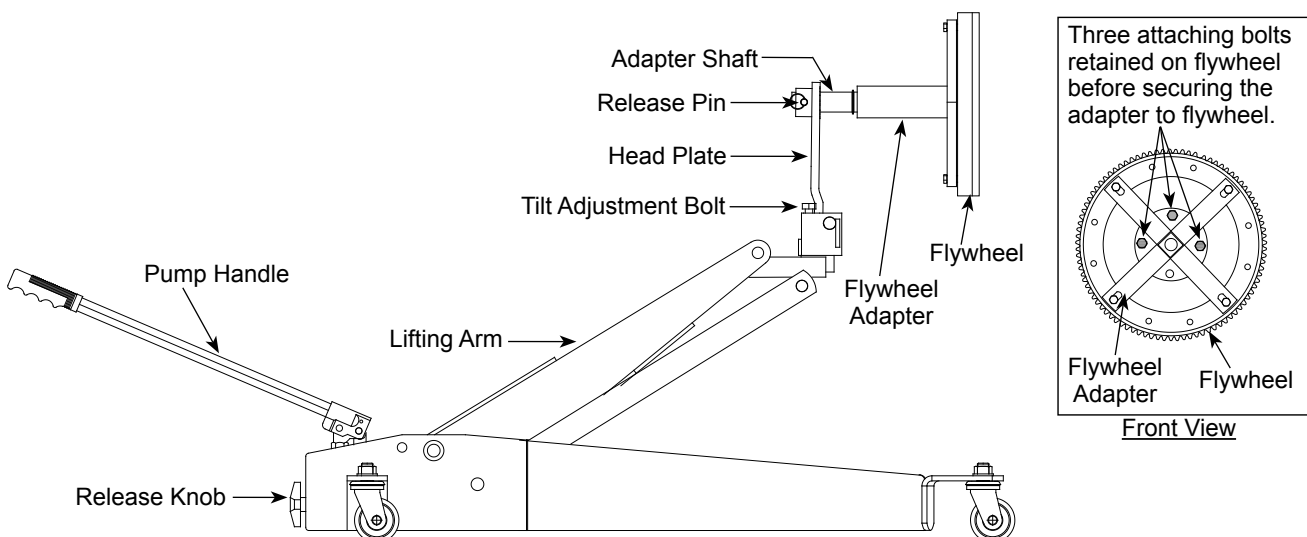

Figure 4 - Flywheel Adapter Operational Illustration
Clutch Handler is designed for clutch/ flywheel removal and installation. Intended use: to remove, install and transport (in lowest position) both 14" and 15-1/2" clutches and flywheels. The two most common spline sizes, 1-3/4" and 2" diameter, are included with this product. The head plate enables clutch to be positioned in either horizontal position for clearing underneath vehicle or vertical position for installation and removal. The spline sleeve rotates 360 degrees, turns side to side and vertically tilts for precise clutch alignment. Model 40501 is designed to be used in conjunction with Omega Clutch handler, 40500 only. Refer to Figure 4 to ensure all parts are included before use.
1. Remove all the flywheel attaching bolts (flywheel to crankshaft bolts) except for the three bolts pointed in Figure 4.
2. Install the flywheel adapter as shown in Fig. 4. Close the release valve knob fully. Pump the handle to raise the lifting arm and align the flywheel adapter to the flywheel using the tilt adjustment bolt.
1. Close release valve knob, pump the handle and raise the flywheel into position shown in Figure 4 for installation. Adjust the flywheel using tilt adjustment bolt to align the flywheel with the crankshaft.